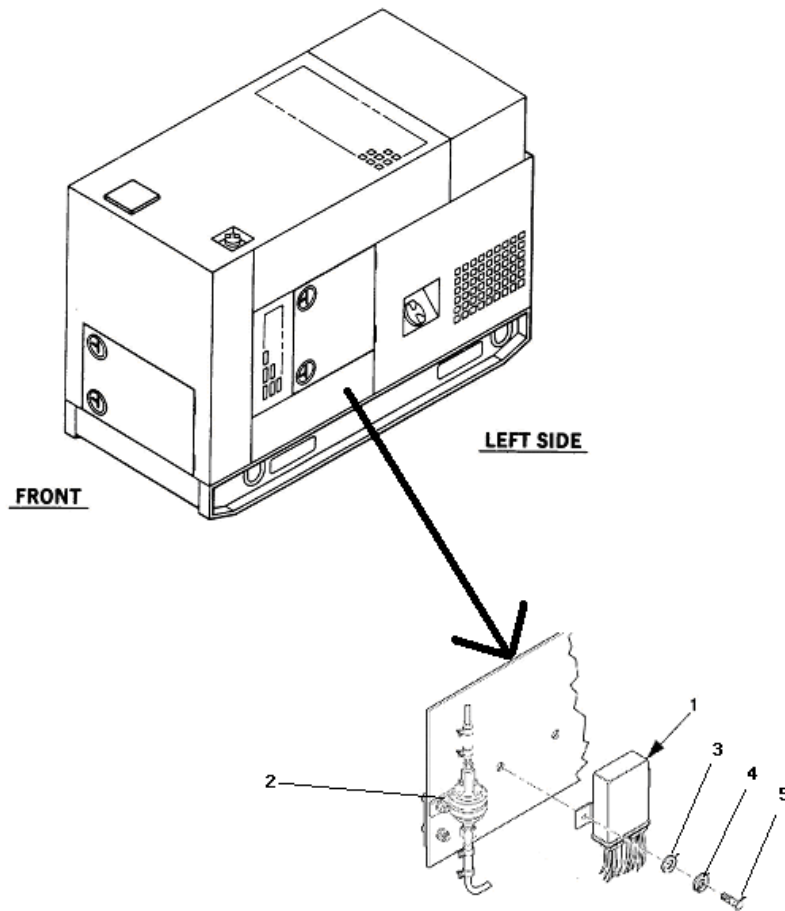

Figure 5-5. Control Unit Assembly
14. Install control unit (1), Figure 5-5, and fuel pump (2) on the outside of the output box using existing hardware: flatwasher (3), lockwasher (4), and bolt (5). Fuel pump electrical connections will be on the top, which is the output line to heater.